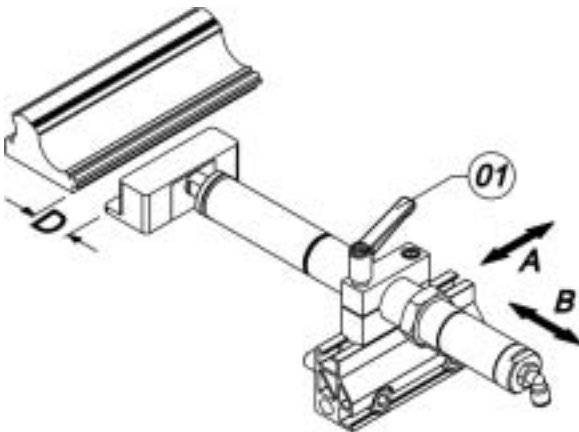

Figure 13
As soon as you choose the profile that you wish to cut, as shown in fig. 13 fit the moulding to be cut onto the table between the fence and the clamping, with the rabbet facing towards you. Make sure to obtain a space of about 3/16" (5mm) between the clamping and the profile, with the clamping air cylinder in the retracted position.
The clamping adjustment is done as shown in fig 13 (01). Loosen the air cylinders so that they can move freely in the direction of arrows "A" and "B", in this way you will be able to obtain a space of about 3/16" (5mm) between the clamping and the profile.